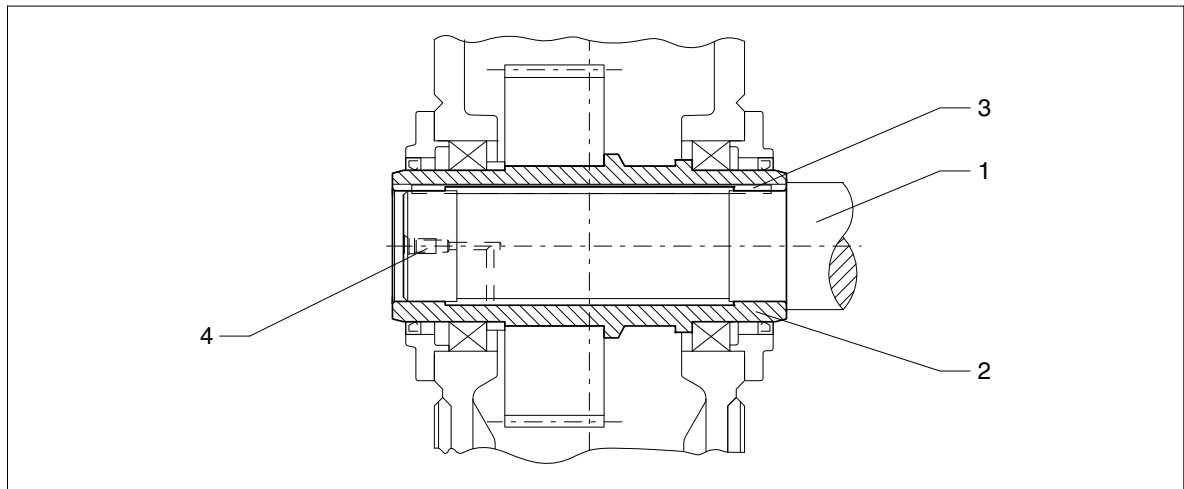

Fig. 43: Hollow shaft with parallel keyway, preparation
To facilitate demounting (see also item 6.4.3), we recommend providing a connection for pressure oil on the end of the driven-machine shaft end, which is drilled through to the hollow-shaft recess (see figure 43). This connection may also be used for supplying rust-releasing agent.
- If frictional corrosion has occurred on the seating surfaces, rust-releasing agent may be used in order to facilitate forcing off the gear unit. The rust releaser can be injected through the pressure-oil connection (see figure 43), e.g. using a pump.